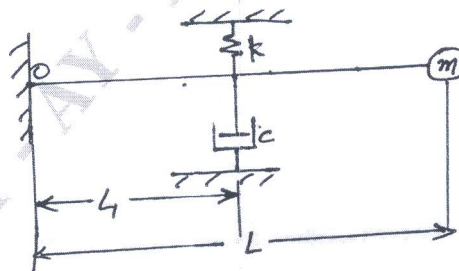

Fig.Q3(b)
- b. Obtain the differential equation of motion for the system shown in Fig.Q3(b) and hence find: